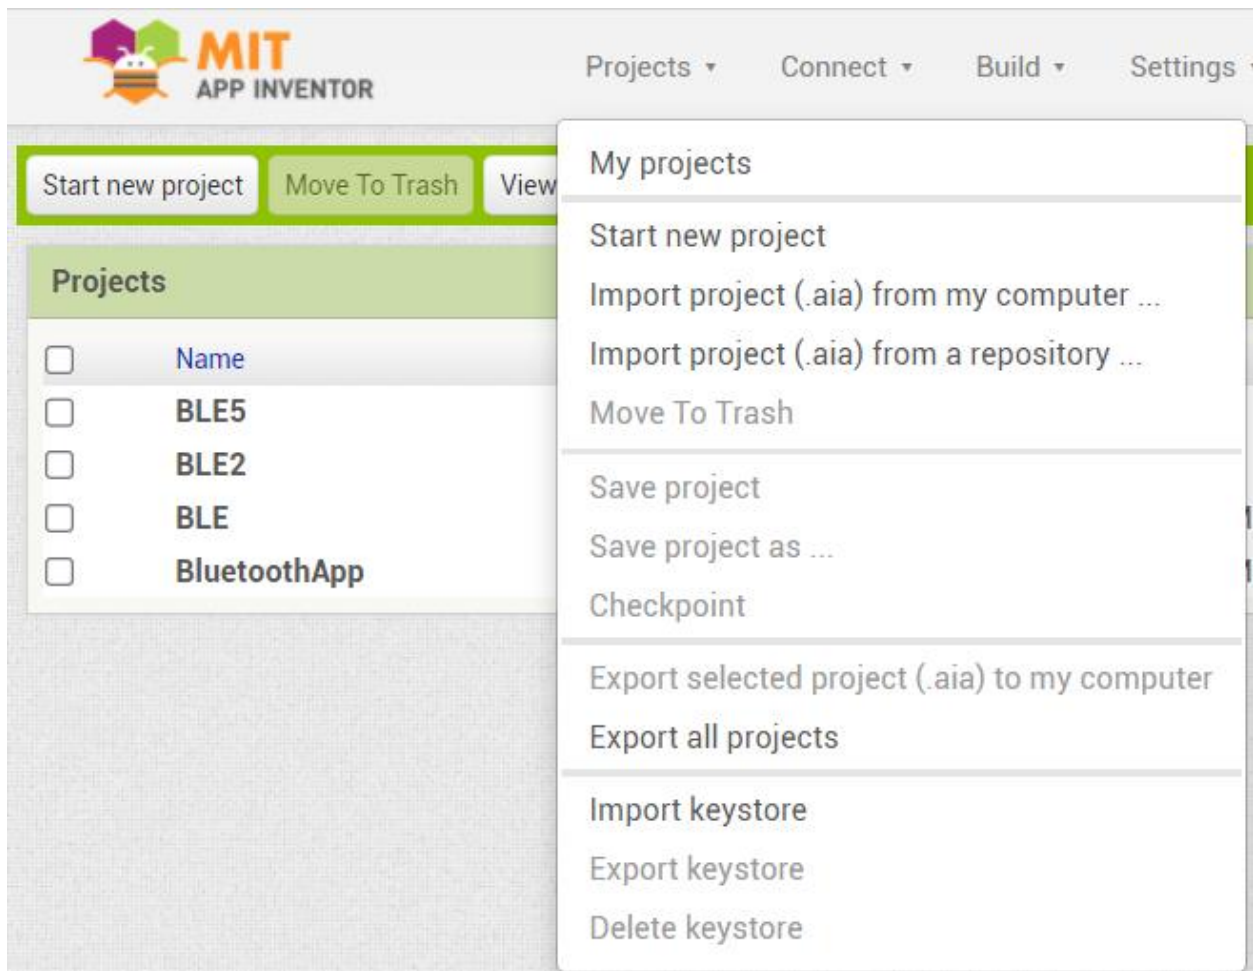

Figure 1: Import Project Using Projects Dropdown
3. Import the BLE5.aia file, under the BluetoothApp folder, to a new project MIT App Inventor (refer to Figure 1)